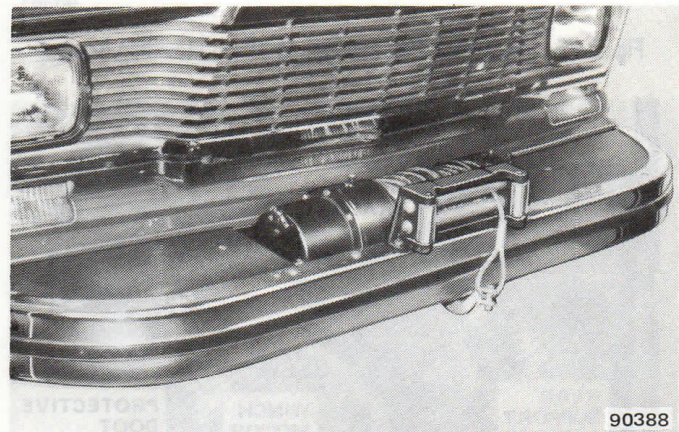

Fig. 5-33 Completed Winch Installation—Cherokee-Wagoneer-Truck
(26) Wind remaining length of cable—in even layers—onto drum while applying maximum tension (pull) on cable. Stop winding cable onto drum when approximately 18 inches of cable still extends beyond fairlead.
(27) Attach cable hook to bumper (fig. 5-33), and wind cable onto drum just enough to retain hook on bumper.